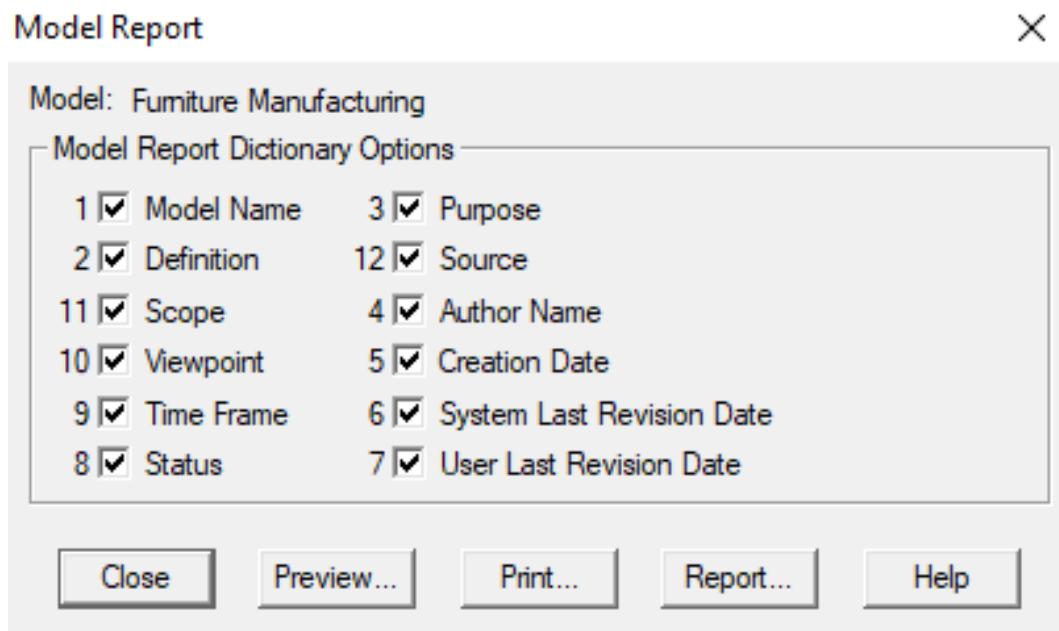

Fig. 3.10. The *Model Report dialog box*
2. Select the required fields, wherein the data output order is automatically displayed in the report (fig. 3.10).